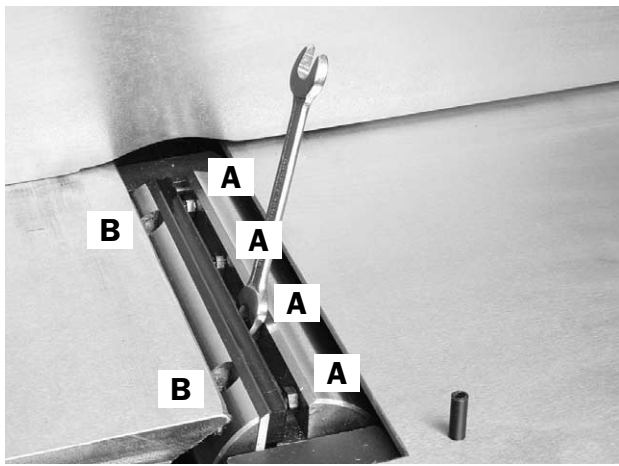

Fig. 12
5. If the knives are high or low at the ends, loosen the four (4) screws that hold the knife locking bars in place Fig. 12 (A), and turn the knife raising screws Fig. 13 (A), clockwise to raise the knives, and anti clockwise to lower them. When lowering the knives you may need to push them down gently onto the raising screws with a piece of wood after screws are turned.
6. Tighten locking bar screws. Fig. 12 (A)
5. Loosen the 4 knife locking bar screws Fig. 12 (A), remove knife and locking bars. Fig. 14.